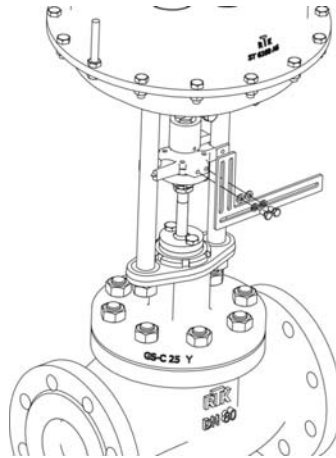

Figure 4
2. Mount the guide rail to the parallel guide using two M5x10 hexagonal screws and two washers and two lock screws. Place the washers between the lock washers and the parallel guide. See figure 4